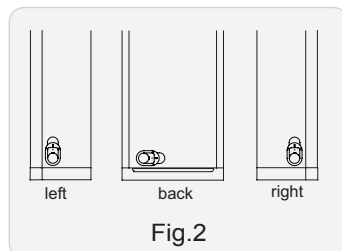

Fig.2
(1) The pipe can be led out in the direction of left, right or rear. (As show in Fig.2)